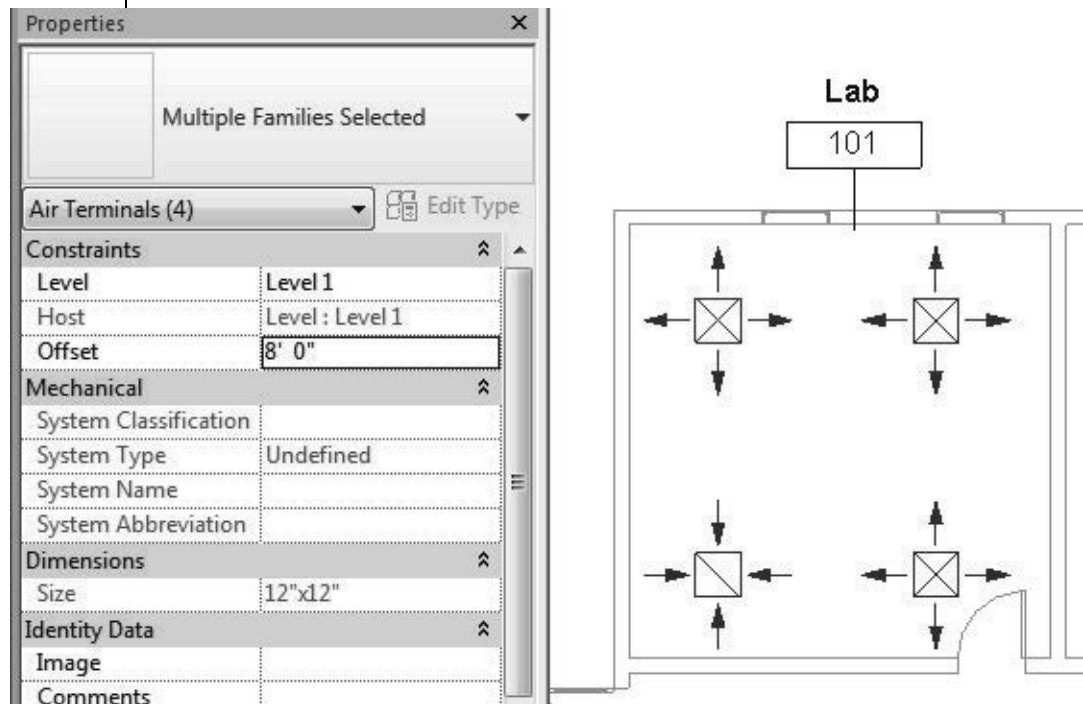

Figure 2-41
7. Change the *Offset* to **8'-0"** and click **Apply**. The offset for all of the air terminals is updated, as shown in Figure 2-41.